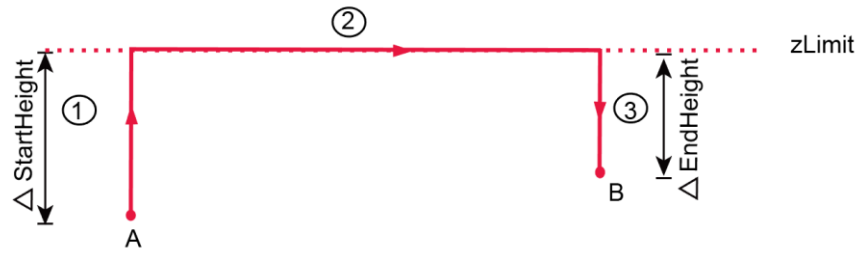

Figure 2.14 Jump mode (1)
- If point **A** plus **StartHeight** or point **B** plus **EndHeight** is higher than **zLimit**, the robot moves up from point **A** to **zLimit** or moves down from **zLimit** to point **B** directly, the trajectory looks like a door without transition, as shown in Figure 2.14.